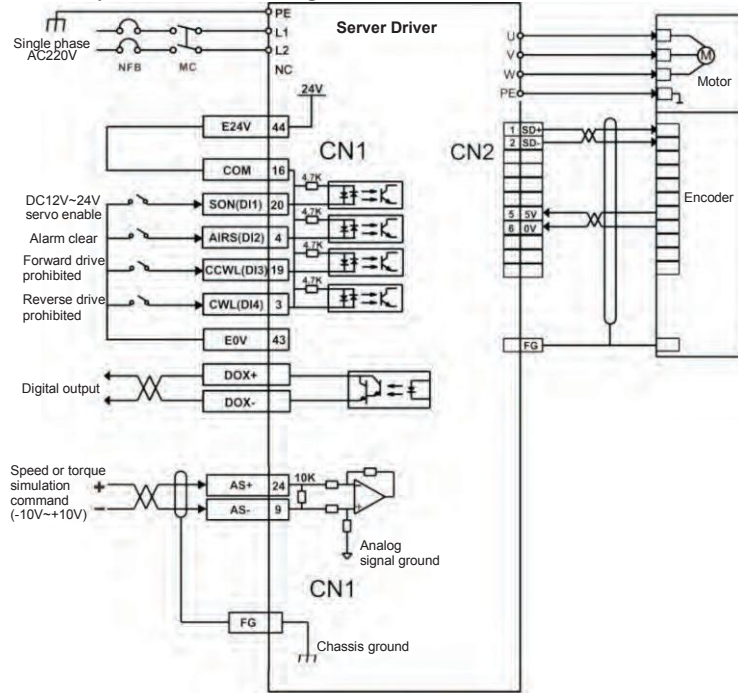

Figure 5.4 Speed mode wiring diagram
- 3) Refer to Figure 5.4 wiring to explain the required DI/DO signals in the connection CN1 terminal, such as servo enablement, alarm clearing, positioning completion signal, etc.